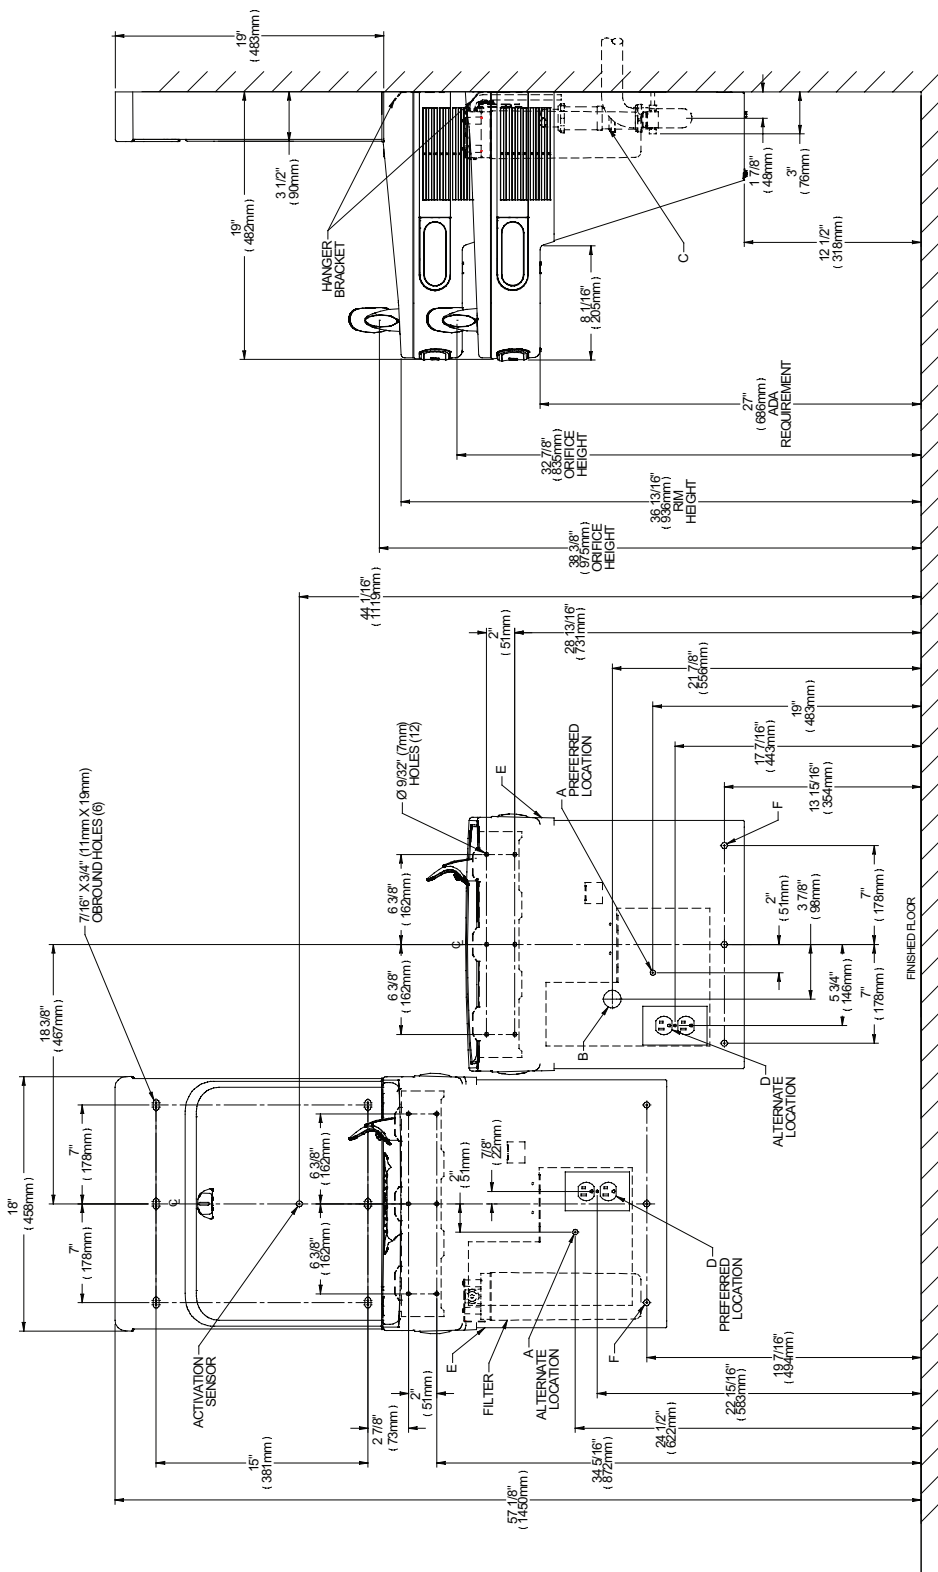

FIG. 4
- 5) Hang only the refrigerated cooler on the hanger bracket. Be certain hanger bracket is properly in the slots on the cooler backs as shown in Figures 1 (Pg. 2), 2 (Pg.3), 3 (Pg. 4), and (Fig. 4, Pg. 5).